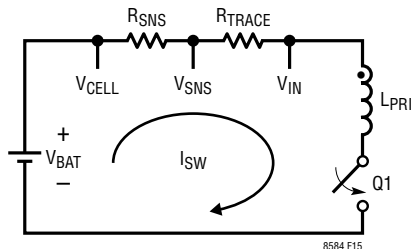

Figure 15.  $R_{TRACE}$  Minimization
5. Care should be taken when routing  $V_{CELL}$ ,  $V_{SNS}$  and  $V_{IN}$  connections.  $R_{TRACE}$  in Figure 15 should be minimized for better efficiency.  $R_{TRACE}$  should never exceed  $19 \cdot R_{SNS}$ . This guarantees that the OUT pin amplifier headroom is sufficient enough for reporting the  $V_{SNS}$  amplifier output.